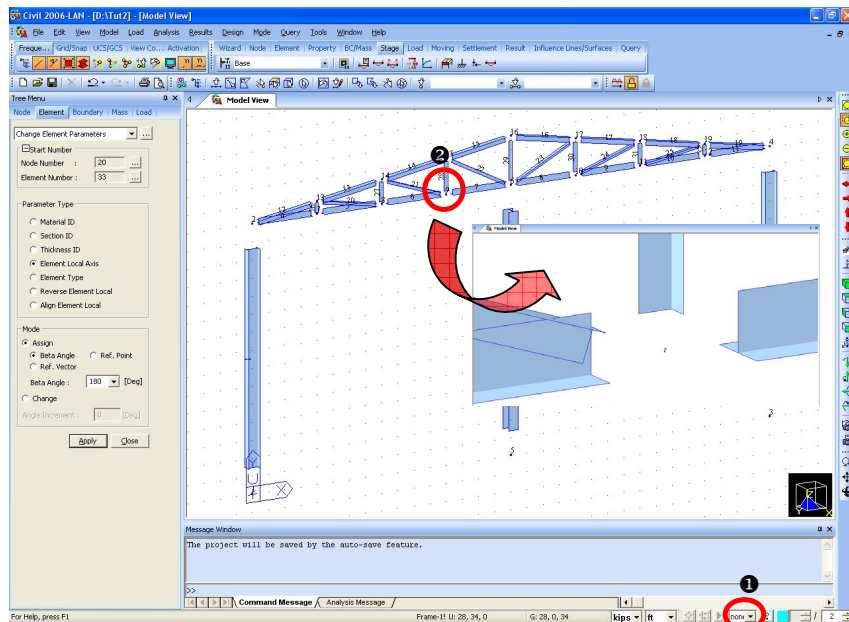

Figure 2.7 Switching the Bottom Chord Beta Angle
The T-shape section members are used for the bottom chord of the roof truss (Fig.2.7– ②) and the section is non-symmetrical about the strong axis. Click **Iso View**, **Shrink**, and **Zoom Window** to magnify the bottom chord of the truss. Observation of the section of the bottom chord will show that the web is oriented downward.
It is easier to select the bottom chord if 'x' is selected in the Filter field (Fig.2.7- 1).
7. Magnify shown in Fig.2.7 to confirm the orientation of the bottom chord.